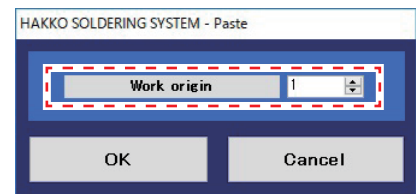

Fig. 7-55
- ③ After completing creating soldering program for P.W.B. No. 1, copy the soldering program for P.W.B. No. 1. When pasting the copied program, a dialog window will open asking for the work origin (see Fig. 7-55). In case of P.W.B. No. 2, select work origin 2, in case of P.W.B. No. 3, select work origin 3.